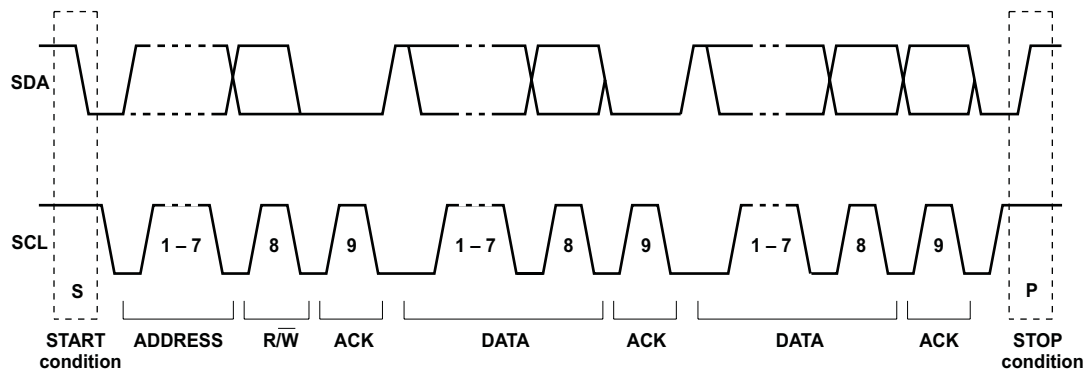

Figure 20. I²C Address and Data Cycles
- The master generates further SCL cycles to either transmit data to the slave (R/W bit 0) or receive data from the slave (R/W bit 1). In either case, the receiver needs to acknowledge the data sent by the transmitter. So an acknowledge signal can either be generated by the master or by the slave, depending on which one is the receiver. The 9-bit valid data sequences consisting of 8-bit data and 1-bit acknowledge can continue as long as necessary (see Figure 20).